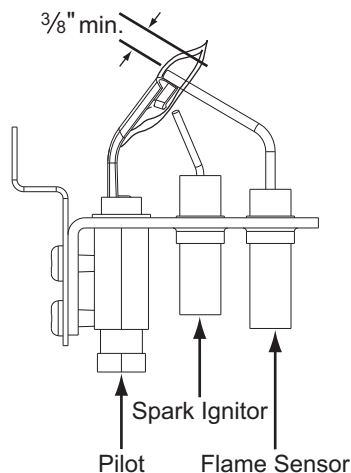

FIGURE 17 - PROPER FLAME ADJUSTMENT
2. **Pressure Switch (PS)** - If the draft motor should fail, the pressure switch prevents the ignition controls and gas valves from being energized.
3. **Flame Sensor** - The flame sensor and controls are located per Proper Flame Adjustment, Figure 17. If an ignition control fails to detect a signal from the flame sensor indicating the pilot flame is properly ignited, then the main gas valve will not open.
4. **Rollout Switch (RS)** - This switch is located in the burner vestibule. In the event of a sustained main burner flame rollout, it shuts off the ignition control and closes the main gas valve.
- NOTE:** The manual reset Rollout Switch (RS) must be reset before allowing furnace operation.
5. **Auxiliary Limit Switch (ALS)** - This control is located inside the heat exchanger compartment and is set to open at 160°F. It is a manual reset switch. If ALS trips, then the primary limit (LS) has not functioned correctly. Replace the primary limit LS.
3. The pilot flame should envelope 3/8" of the end of the flame sensor and not contain any yellow color, see Figure 17.